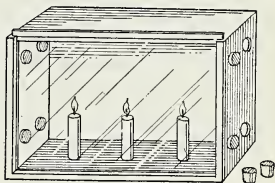

Fig. 206.
*Materials:* A box prepared as shown in Fig. 206; Chinese punk or other source of smoke.